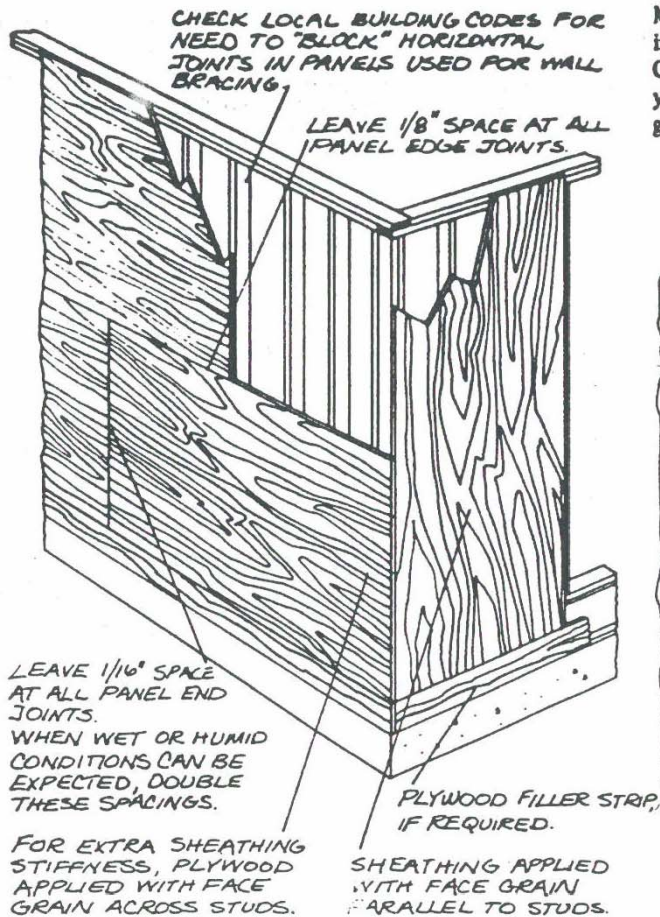

FIGURE 1
8. Add a plywood filler strip, if necessary, below the sheathing to help tie the floor to the sill (see Figure 1). Nail this filler 6 in. o.c. to both header joist and sill.